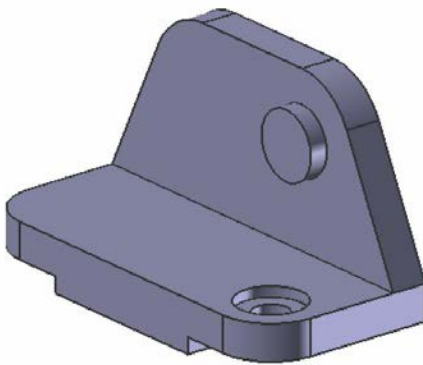

Figure 7-98 Model after creating the extruded join feature on the front face of the second feature
- Create the extruded join feature on the front face of the second feature and then create a hole on it, refer to Figures 7-98 and 7-99.
2. Extrude the circle to create the join feature, refer to Figure 7-98.